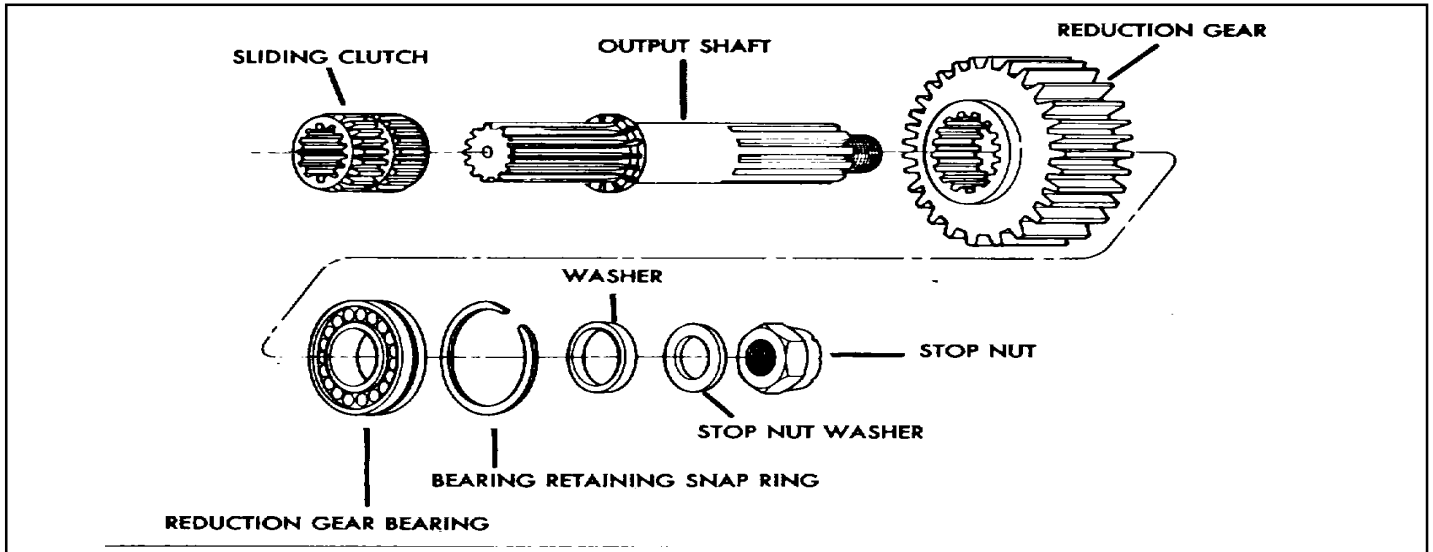

Fig. 4
1.7 Removal and Disassembly of Output Shaft and Reduction Gear Assembly (Fig. 4)